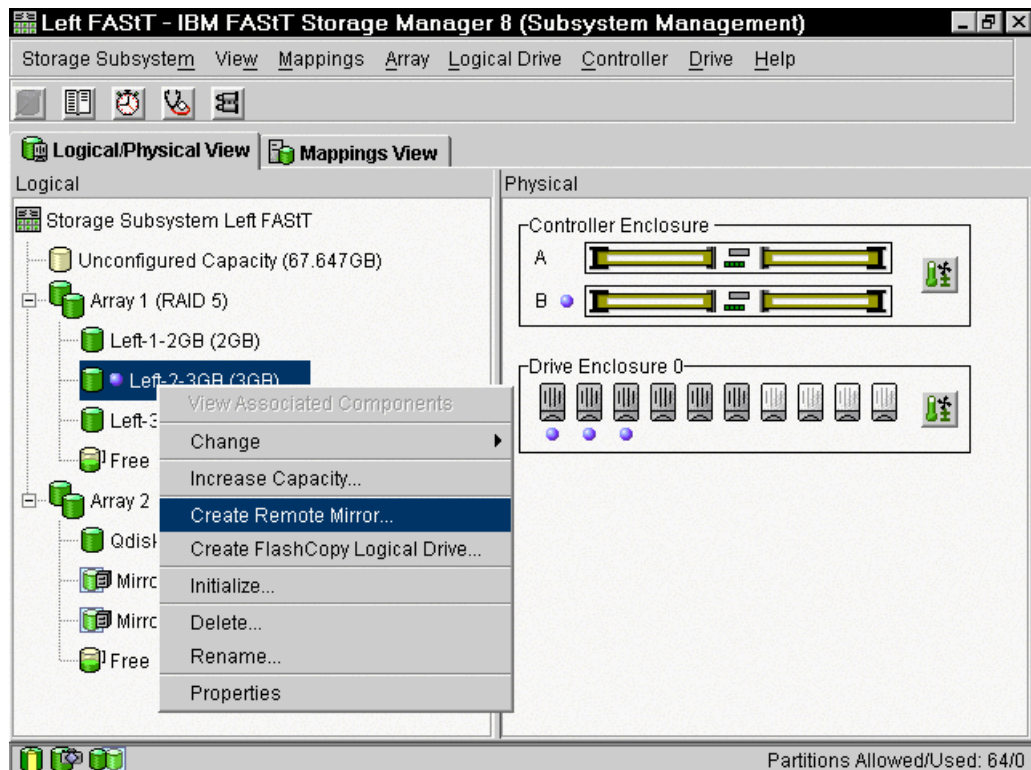

Figure 6-17 Selecting the Create Remote Mirror wizard
1. Select the logical drive. Then right-click and select **Create Remote Mirror** (Figure 6-17).